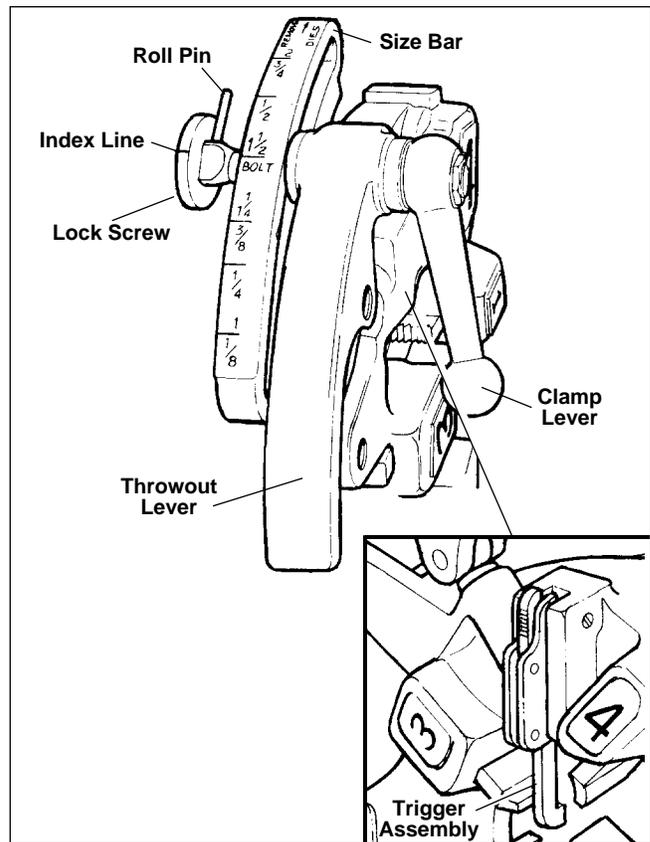

Figure 11 – Universal Self-Opening Die Head
6. Self-Opening 815A Die Head (Figure 11) – When the die head trigger contacts end of pipe, throwout lever is automatically opened.
The No. 811A Universal Die Head (*Figure 11*) for right hand threads requires four sets of dies to thread pipe ranging from 1/8" through 2". One set of dies is required for each of the following pipe size ranges: (1/8"), (1/4" and 3/8"), (1/2" and 3/4") and (1" through 2"). Bolt threading requires a separate set of dies for each bolt size. No bolt dies are available for left hand universal die heads.